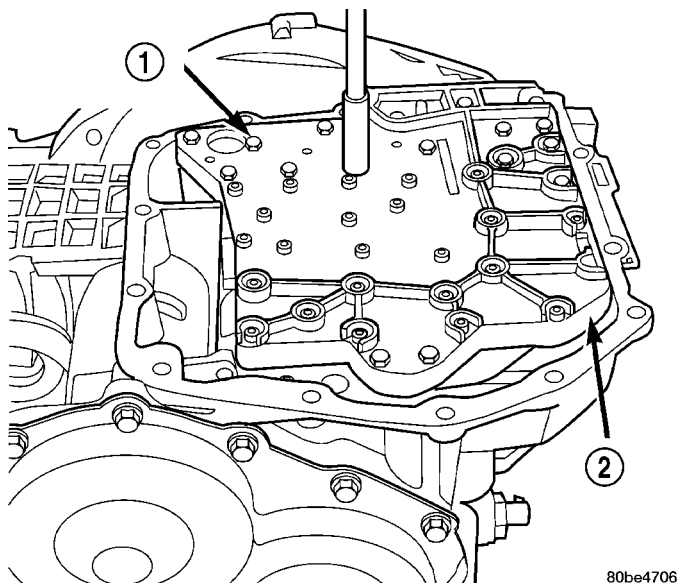

Fig. 19 Remove Valve Body Attaching Bolts
(7) Turn manual valve fully clock-wise to get park rod into position for removal.
(8) Remove valve body-to-case bolts (Fig. 19).